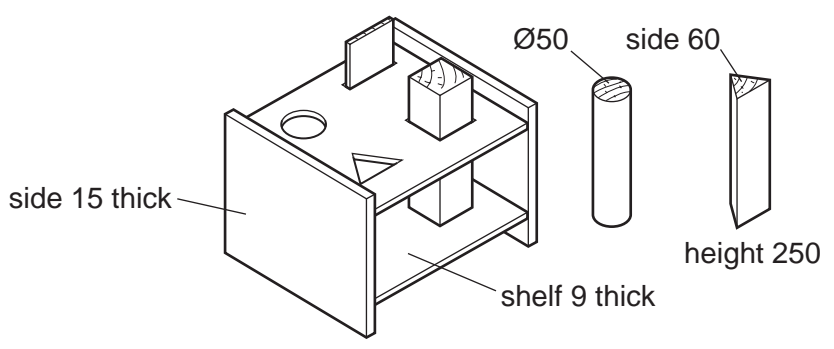

Fig. 5
- 11 Fig. 5 shows a shape sorting toy to be used by a young child. The sides and shelves of the toy are made from manufactured board and finished with paint. The shapes are made from solid wood and have been left without a finish.